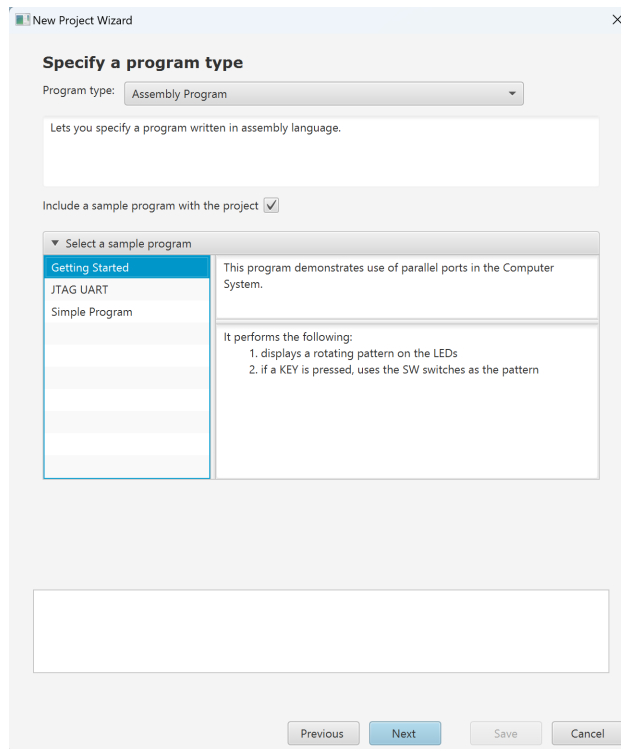

Figure 16: Selection of an application program.
4. In the window in Figure 16 you can specify the type of application programs that you wish to run. They can be written in either assembly language or the C programming language. Specify that an assembly language program will be used. The *Monitor Program* package contains several sample programs. Select the box Include a sample program with the project. Then, choose the Getting Started program, as indicated in the figure, and click Next.
1. Create a new folder for this part of the exercise, with a name such as *Part2*. Create a file named *part2.s* and enter the code from Figure 21 into this file. Use the Monitor Program to create a new project in this folder; we have chosen the project name *part2*. When you reach the window in Figure 16 choose **Assembly Program** but do not select a sample program. Click **Next**.